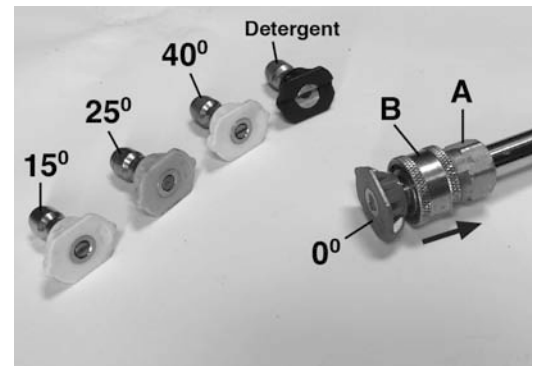

Figure 10
This pressure washer comes with a stainless steel wand, its tip has a quick connect coupler (A) Fig.10 to fit different nozzles. The spray pattern is adjusted by installing the appropriate spray pattern nozzle to the quick connect coupler. Five nozzles are included, 0°, 15°, 25°, 40° and a detergent nozzle. To install a nozzle to the quick connect coupler, pull the coupler ring (B) backwards and insert the desired nozzle (C), release the coupler ring to lock it in place.
- 2) When using a detergent, the stainless steel wand must be fitted with the detergent nozzle (black). This can be done by pulling the coupler ring (B) Fig.10 backwards and inserting the detergent nozzle, release the coupler ring to lock it in place.